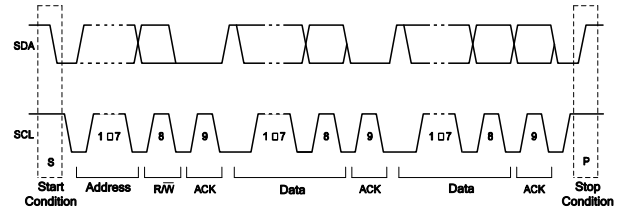

Figure 17: Complete Data Transfer
Figure 17 shows the data transfer sequence. After the start condition (S), a slave address is sent. This address is 7 bits long followed by an 8th data direction bit (R/W). A 0 indicates a transmission (write), while a 1 indicates a request for data (read). A data transfer is always terminated by a stop condition (P) generated by the master. However, if a master must communicate on the bus, it can generate a repeated start condition (Sr) and address another slave without first generating a stop condition.